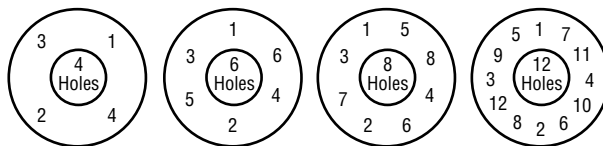

Figure 18
13. Place bonnet gasket in the base prior to installing the bonnet. Uniformly tighten the bonnet stud nuts using the pattern shown in Fig.18.